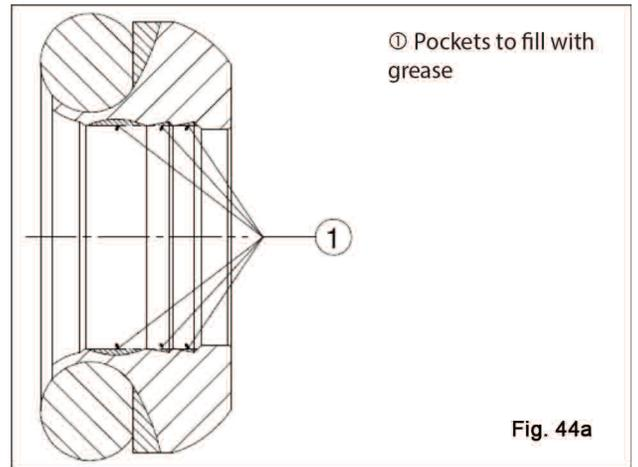

Fig. 44a
- B) On the internal diameter, grease must be applied paying great attention to filling all the pockets between the sealing lips as shown in fig. 44a.